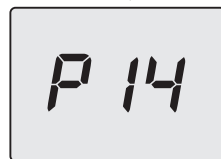

Figure 5.58
- Scroll through the various parameters by pressing the keys 12 (back) or 14 (forward), until **P14**, which alternates with the parameter value, appears on the LCD display (Figure 5.58).